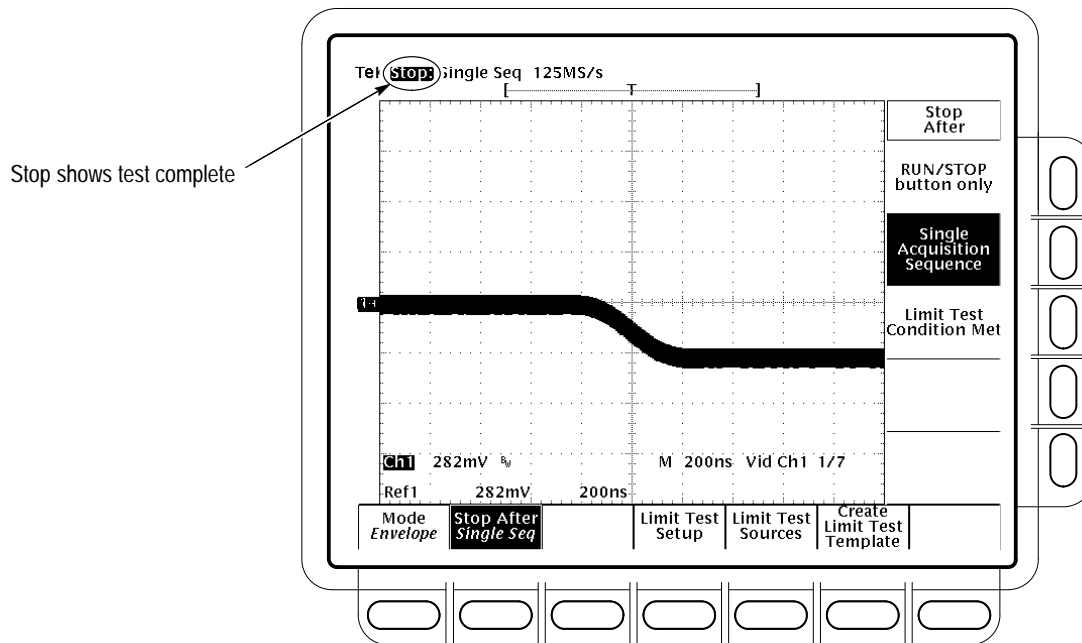

Figure 1–28: Jitter Test When Completed – TDS 684B Shown
- v. Confirm that the oscilloscope successfully makes 100 acquisitions. If not successful, the oscilloscope bell will ring. When the word **Run** in the top left corner of the display changes to **STOP**, the test is complete. See Figure 1–28.